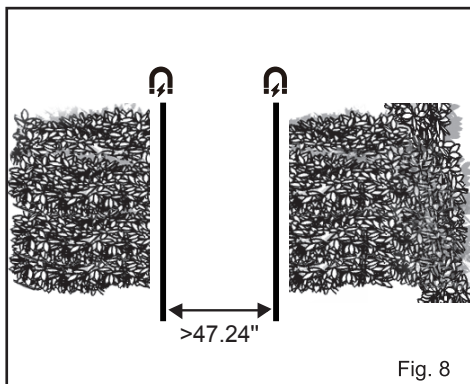

Fig. 8
- Keep a distance of at least 47.24" (120 cm) between two individual boundary areas made up of magnetic strips (Fig. 8).